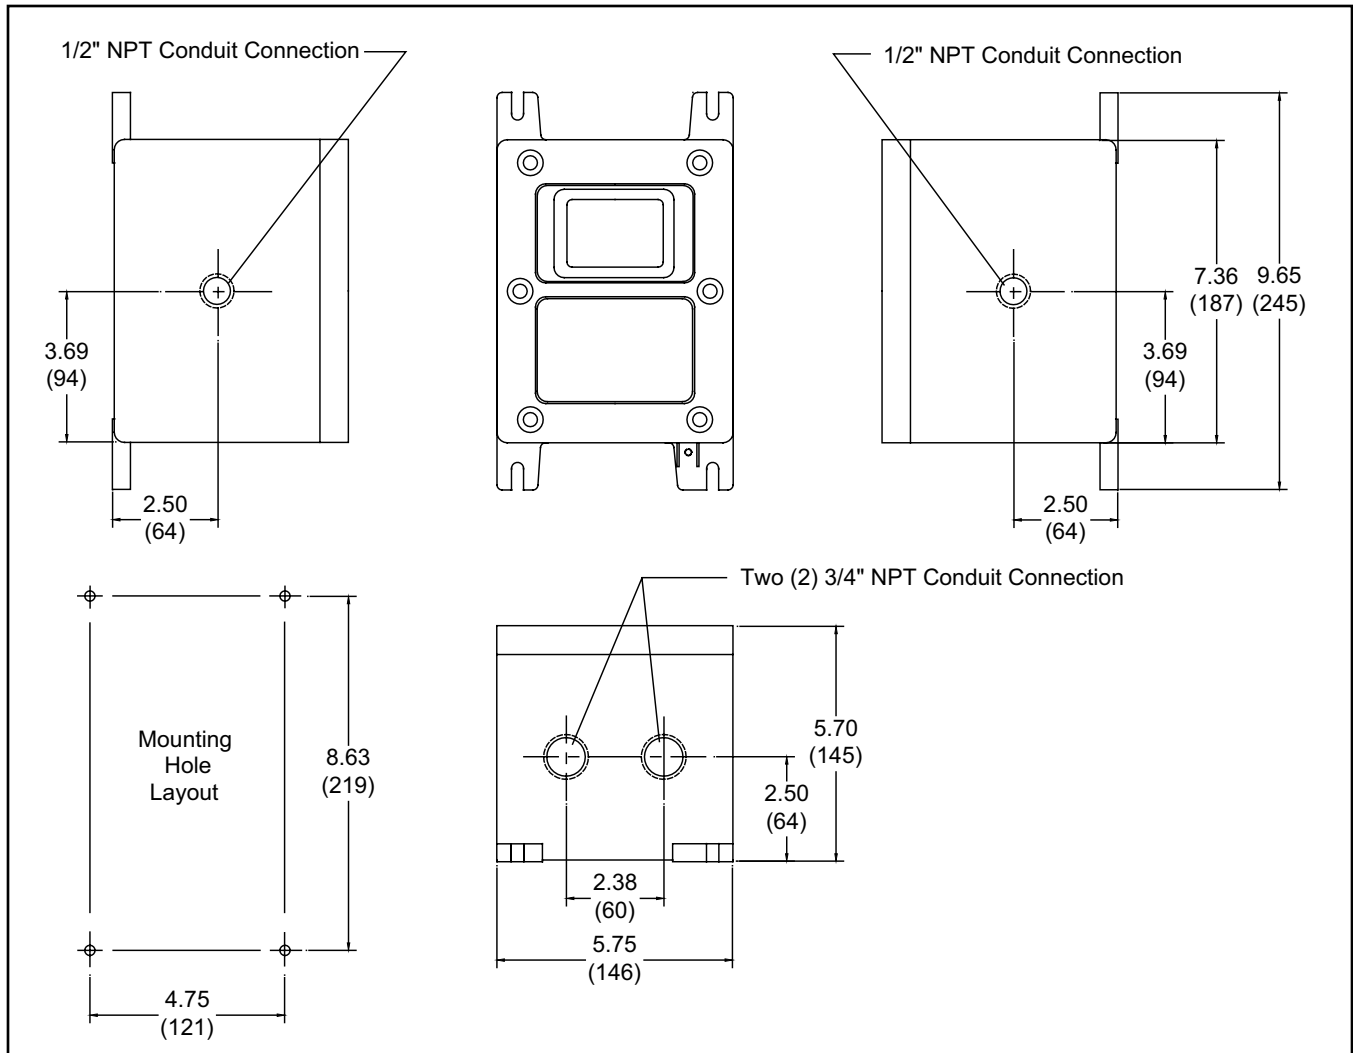

Figure 2. microFlow.net Liquid Dimensions
2. The location and the height of microFlow.net Liquid should be selected to permit easy viewing of the display and to provide convenient access to the keypad by all users. See Figure 2 for dimensions of the microFlow.net Liquid.
1. Mount the microFlow.net Liquid using four (4) 5/16 - 18 bolts. See Figure 2 for mounting hole layout.
3. In preparation for wiring, remove microFlow.net Liquid cover/keypad/display. This is done by removing six (6) cap screws, which hold the cover to the microFlow.net Liquid enclosure. Carefully pull the cover away from the enclosure and unplug factory-installed cables by removing the terminal blocks at the MNET circuit board. Note the position of these connections for reinstallation later.